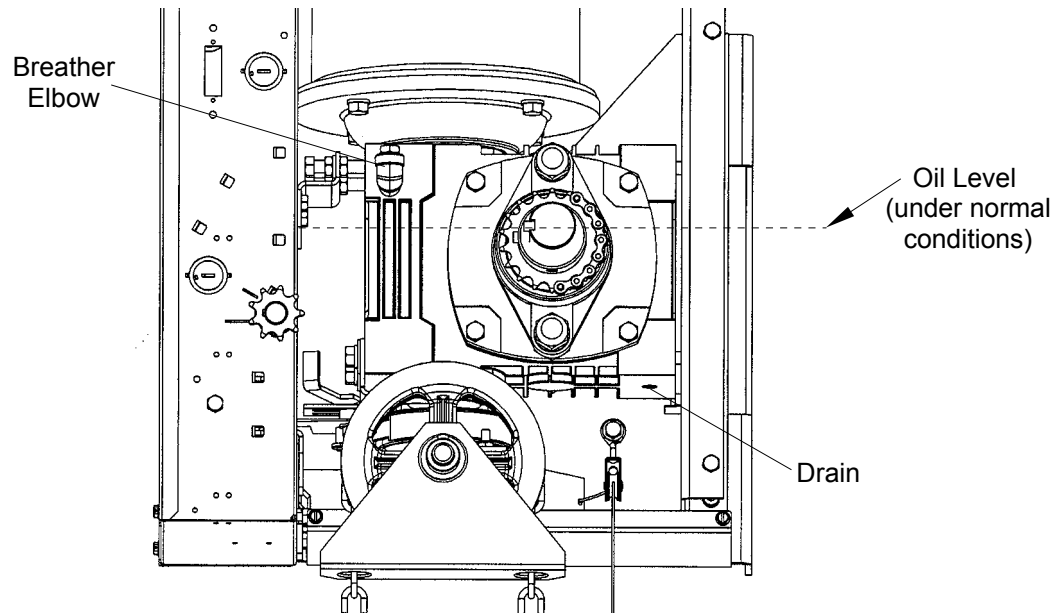

Figure 38 - Gear Reducer Breather
1. Unfasten and remove the breather elbow, refer to Figure 38.